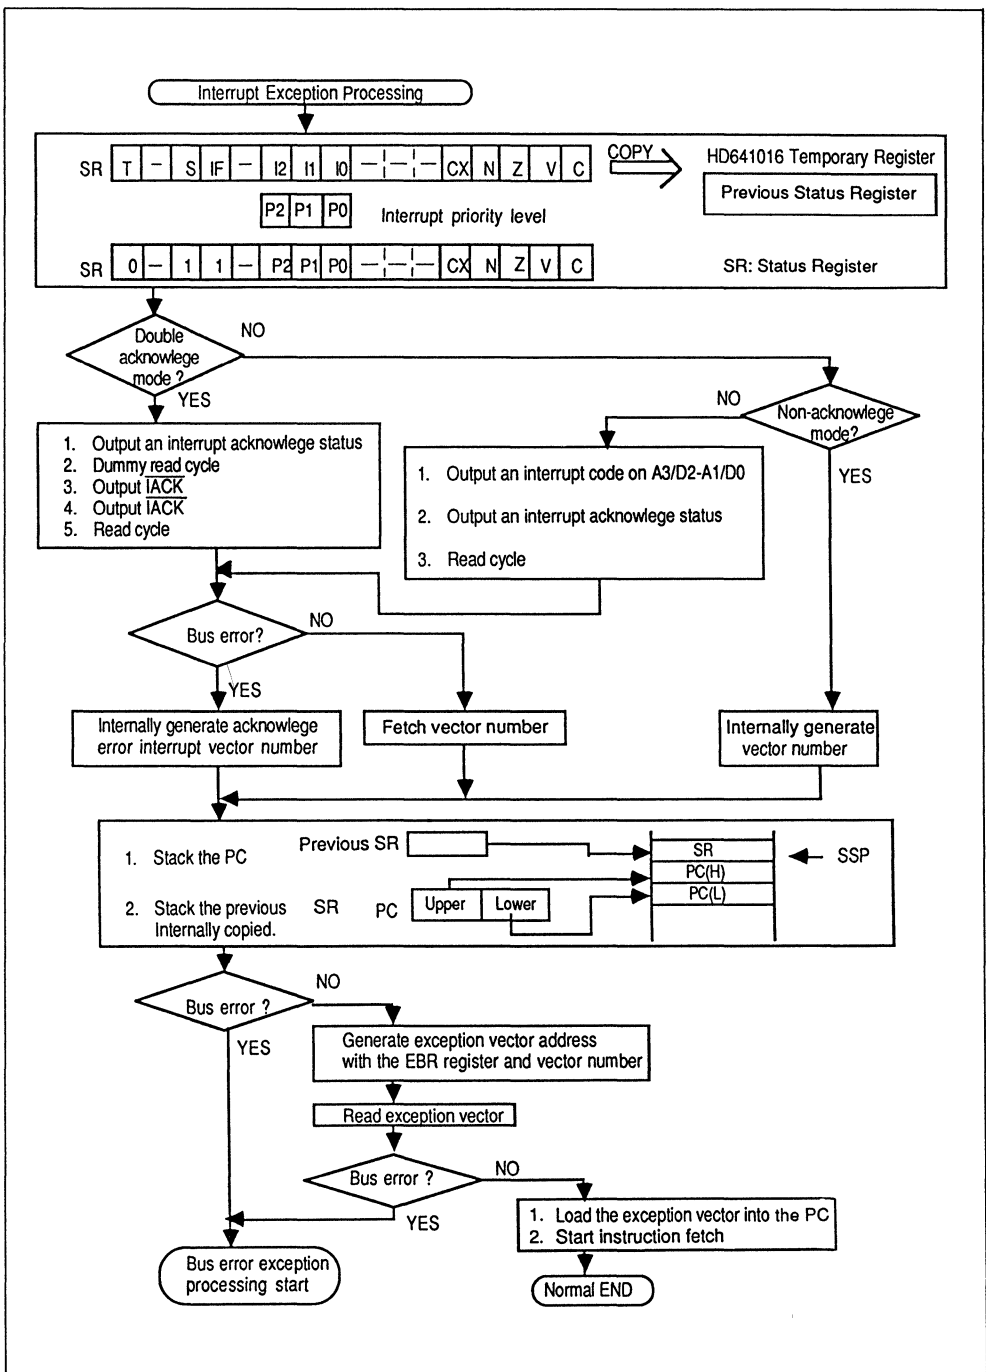

Figure 4-59. Interrupt and Acknowledge Error Exception Processing Sequence
**Interrupt:** The HD641016 has 3 external and 22 internal interrupt sources at three priority levels which will be discussed further in the following sections (see Figure 4-59). See "4.6.7 Stack Configuration for Exception Processing" for details on the stacked information. Refer to "4.7 Interrupt Controller" for details on interrupt priority.
**Acknowledge Error:** An acknowledge error exception occurs, if a bus error caused by BRTRY occurs during single or double acknowledge cycle of an external interrupt. The CPU then stops the external interrupt vector access and begins the acknowledge error interrupt exception processing by internally generating the exception vector number H'24. See Figure 4-59.